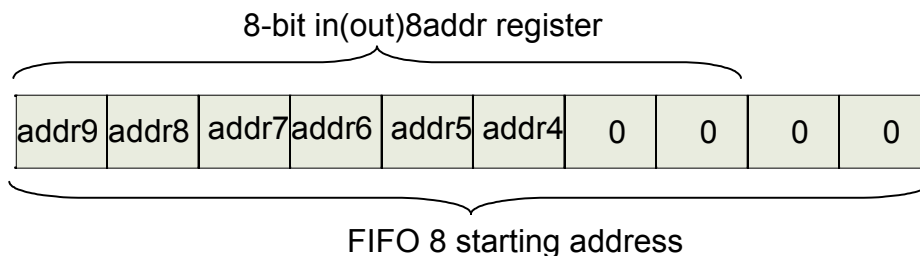

Figure 34. FIFO 8 starting address
**Note:** Only the six most significant bits can be written by the MCU (see Figure 34. on page 76).